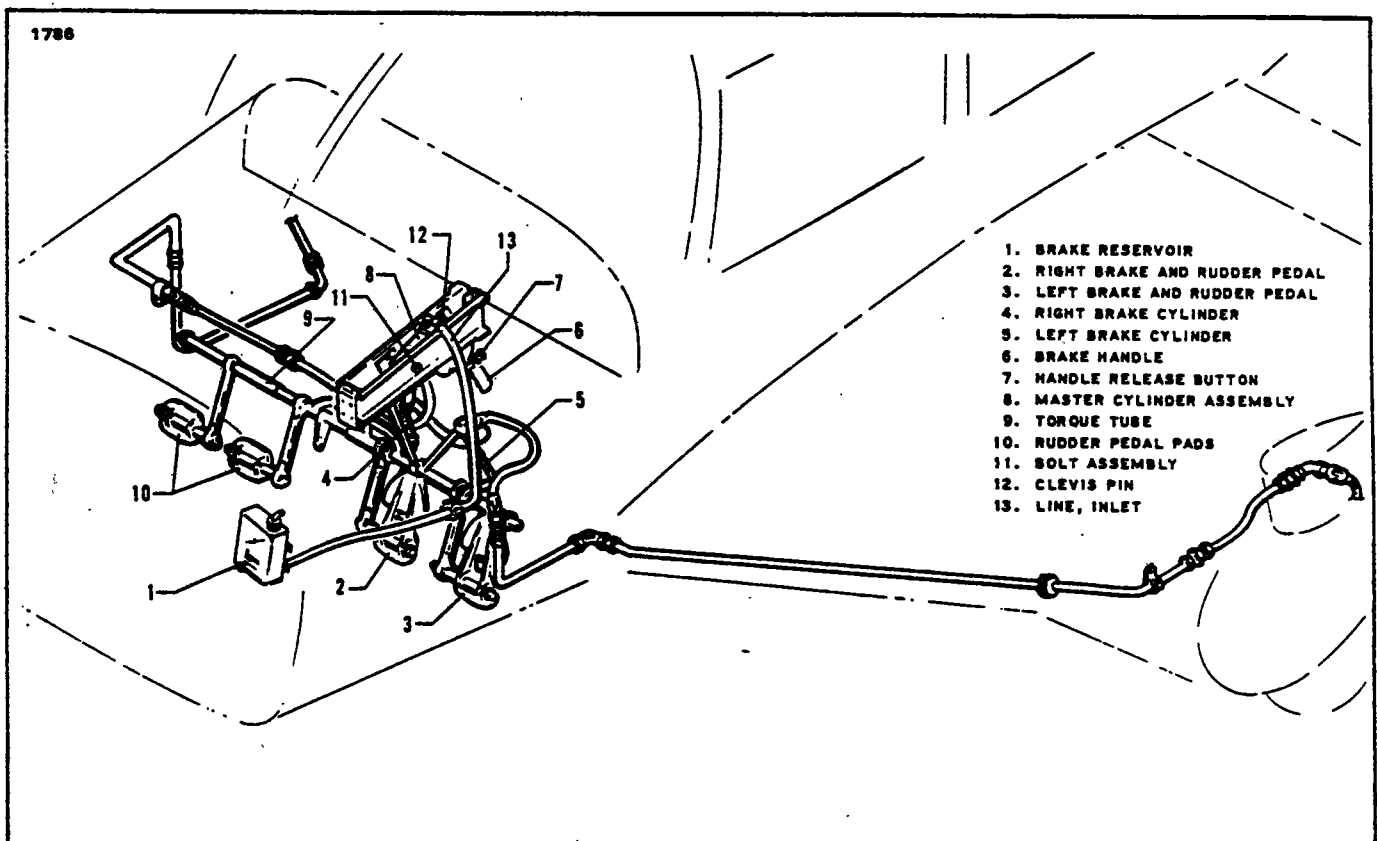

Figure 7-14. Brake System Installation
**7-35. REMOVAL OF BRAKE MASTER CYLINDER. (Hand Brake.) (Refer to Figure 7-14.)**
- a. To remove the brake master cylinder (8), first disconnect the inlet supply line (13) from the fitting at the top of the cylinder and allow fluid to drain from the reservoir and line into a suitable container.
- c. Disconnect the end of the cylinder rod from the brake handle (6) by removing the cotter pin that safeties the connecting clevis pin (12). Remove the clevis pin and spacer washers.
- d. Disconnect the base of the cylinder from its mounting bracket by removing the attaching bolt assembly (11).
7-39. INSTALLATION OF BRAKE MASTER CYLINDER. (Hand Brake.) (Refer to Figure 7-14.)